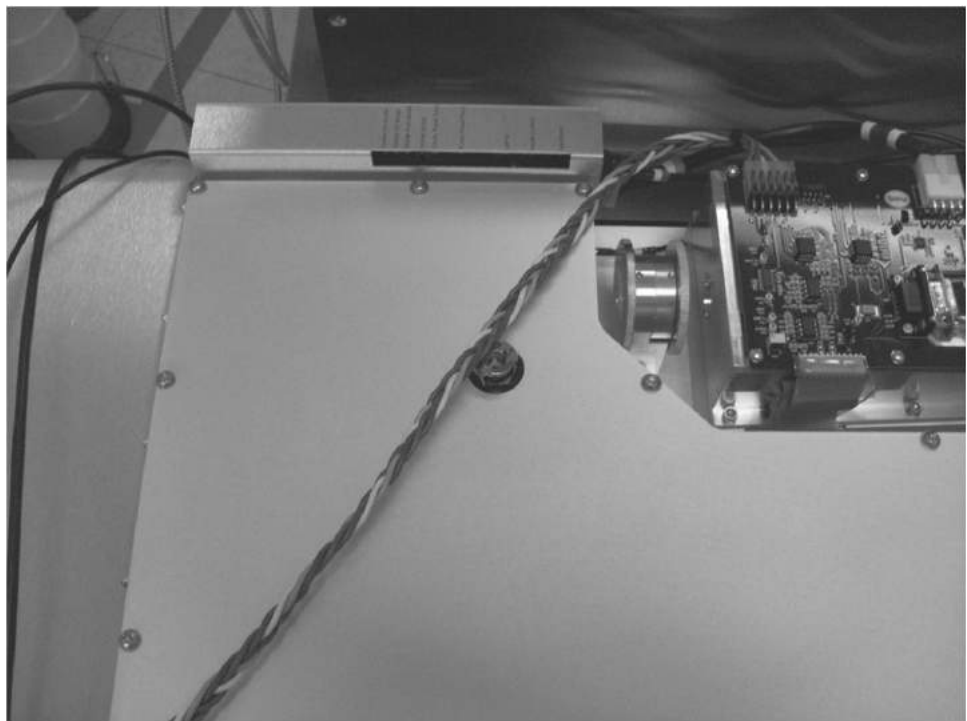

Figure 5.17-3. Pump Board Cable Connection
7. Disconnect the cable end from the pump board as shown in figure below. Figure 5.17-3.